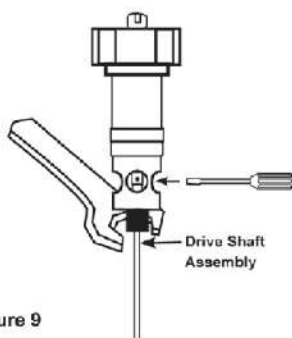

Figure 9
11.Insert a small screwdriver(or similar object) through the small hole on the shaft located inside the mechanical seal inspection port (see Figure 9).
12.While holding the small shaft still, loosen (counterclockwise)the pump drive shaft with large wrench.(see Figure 9).
5.Thread drive shaft onto bearing housing shaft (see Figure 9).